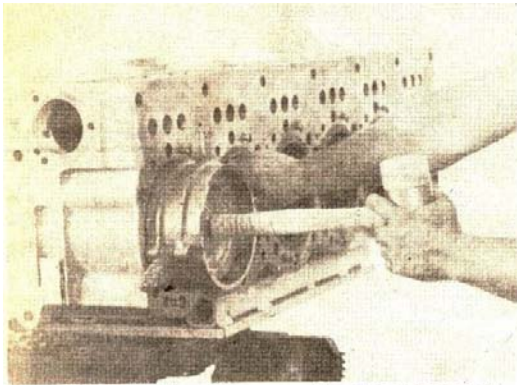

Fig. 14-13, Install the piston assembly using a 3375342
8. Push the piston and rod assembly through the ring compressor into the liner until the top bearing shell is seated on the crankshaft. Fig. 14-13.